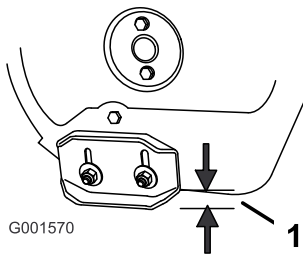

Figure 44
2. Loosen the nuts that secure both skids to the auger sides until the skids slide up and down easily (Figure 44).